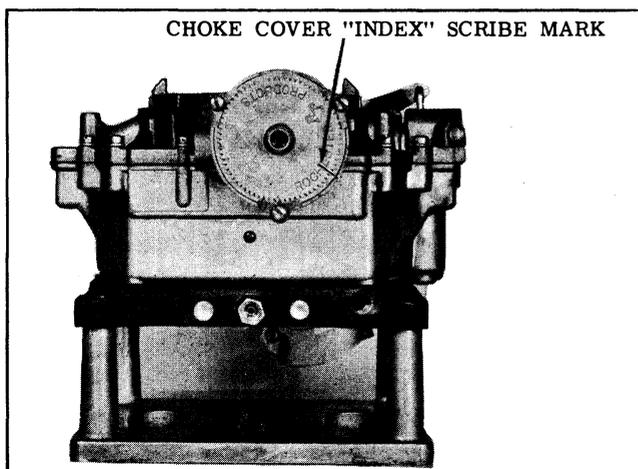

Fig. 8-106 Thermostatic Control Setting
17. Set the cover at the "INDEX" scribe mark for Hydra-Matic equipped cars and one notch "LEAN" for Syncro-Mesh transmission equipped cars. (See Fig. 8-106) Tighten coil cover retaining screws.